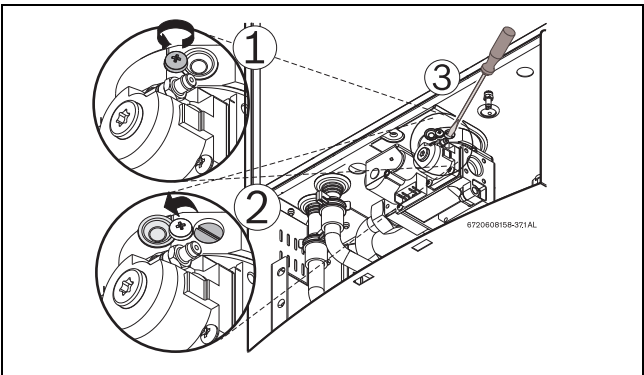

Fig. 73 Adjusting P1 CO2 level
- Loosen yellow painted Phillips screw (1) and cover should rotate down (2) revealing a recessed brass slotted screw. Fig. 73.